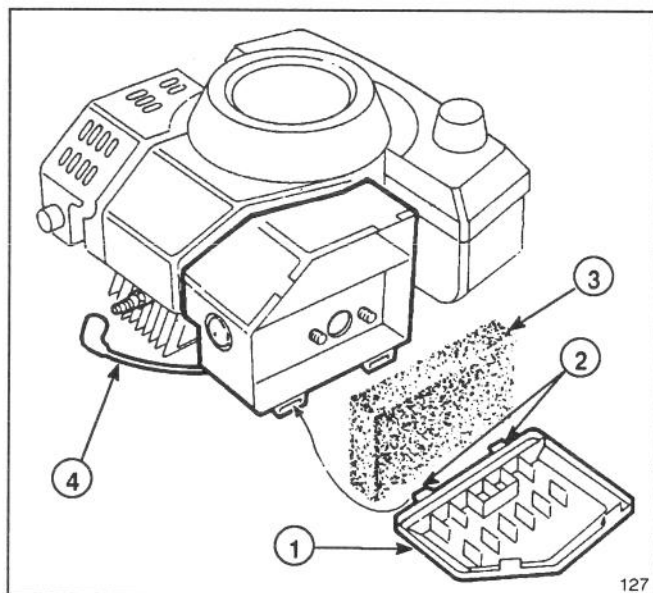

Figure 15
1. Stop engine and pull wire off spark plug (Fig. 15).
2. Lift tabs at top of air cleaner cover and pivot cover down (Fig. 15). Clean cover thoroughly.
3. If foam element is dirty, remove it from air cleaner body (Fig. 15). Clean thoroughly.